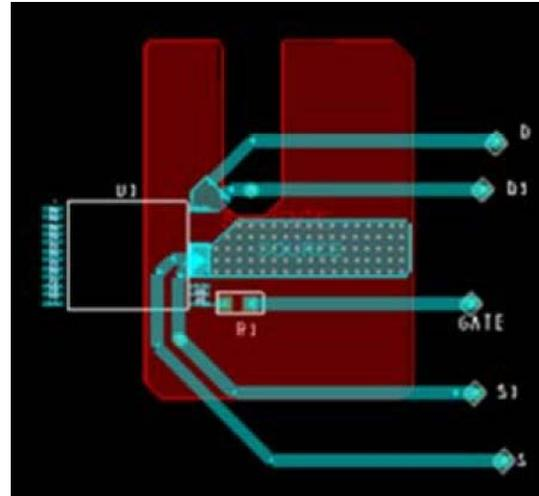

Figure 39. Thermal Resistance Test Conditions for PowiGaN Devices (INN3379C and INN3370C.)
Testing performed on custom thermal test PCB as shown in Figure 39. The test board consists of 2 layers of 2 oz. Cu with the InSOP package mounted to the top surface and connected to a bottom layer Cu heat sinking area of 550 mm².
- Please see Figure 39.